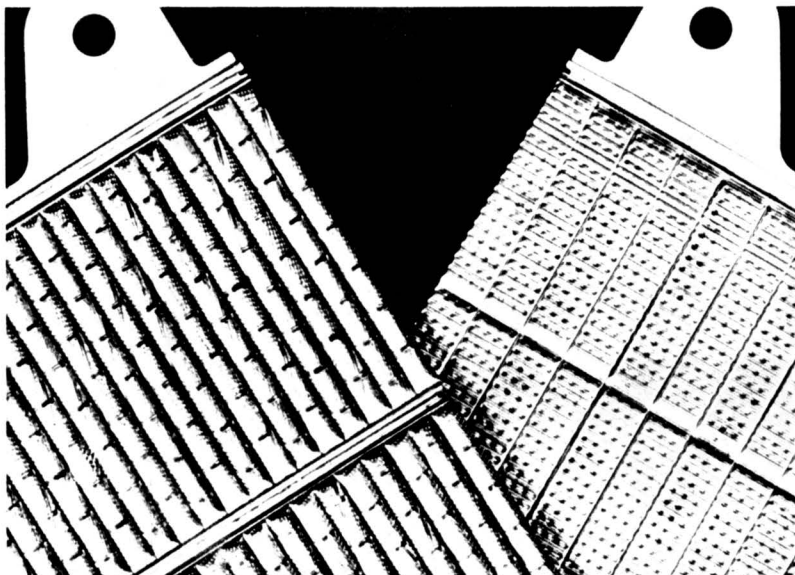

Figure 15. Detail photograph of the positive (left) and negative plates of the nickel-iron cell.
**NICKEL-IRON BATTERIES:** The nickel-iron cell bears a broad physical similarity to the lead-acid cell, but is quite different chemically. The positive plate is a nicked-steel grid containing perforated nicked-steel tubes into which the active material is inserted. The positive active material begins as nickel hydrate, but is changed by formation into a nickel oxide. The negative plate is a nicked-steel grid containing perforated pockets of finely divided iron oxide. Figure 15 shows positive and negative plates of a nickel-iron cell.